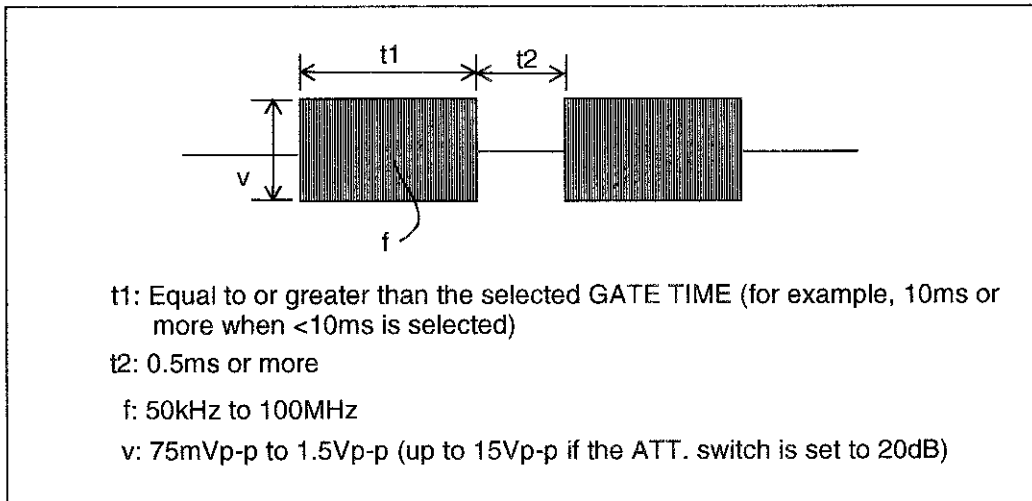

Figure 3-6 Condition for Burst Signal Measurement in FREQ. B
- ⑨ Select sample rate as needed with the SAMP. RATE switch.
- ⑩ Set the ATT. switch to ON (lamp on) as needed.
- ⑪ When measuring a burst signal frequency, set the BURST switch to ON. Figure 3-6 shows the conditions for burst signal measurement